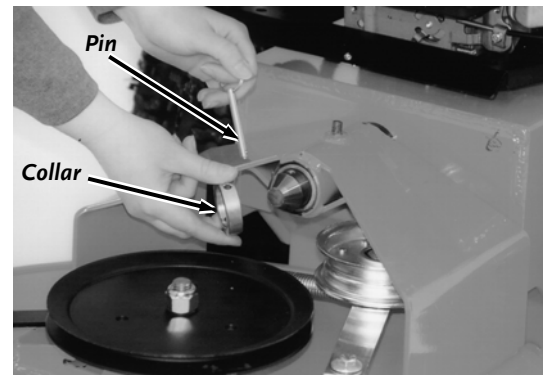

Figure 2
2. Slide the Power Unit shaft into the Brush Deck and install the Collar and Pin (**Figure 2**).